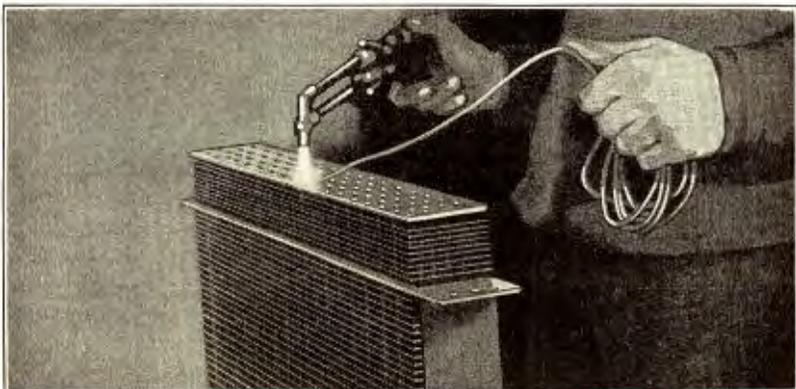

Fig. 401
804 In using the torch, always solder in the direction of the flow of the flame as shown in Fig. 401. The reason for this is two fold. First, it preheats the surfaces saving time in soldering, and, second, it gives the solder a chance to cool after it has flowed into place. Use plenty of acid. Acid applied after the soldering operation is started, while necessary in a number of cases, is never as effective as though enough were put on in the first place. The acid should be used when soldering with the iron, also when soldering with the torch. The iron is used to best advantage in soldering two parallel surfaces. In all other cases the torch is the most efficient.
- 815** Removing the tank disturbs the solder around the tubes in the header. It is therefore advisable to heat the inside of the header, brush off the old solder and rust and reset the tubes before replacing the tank (See Fig. 401).